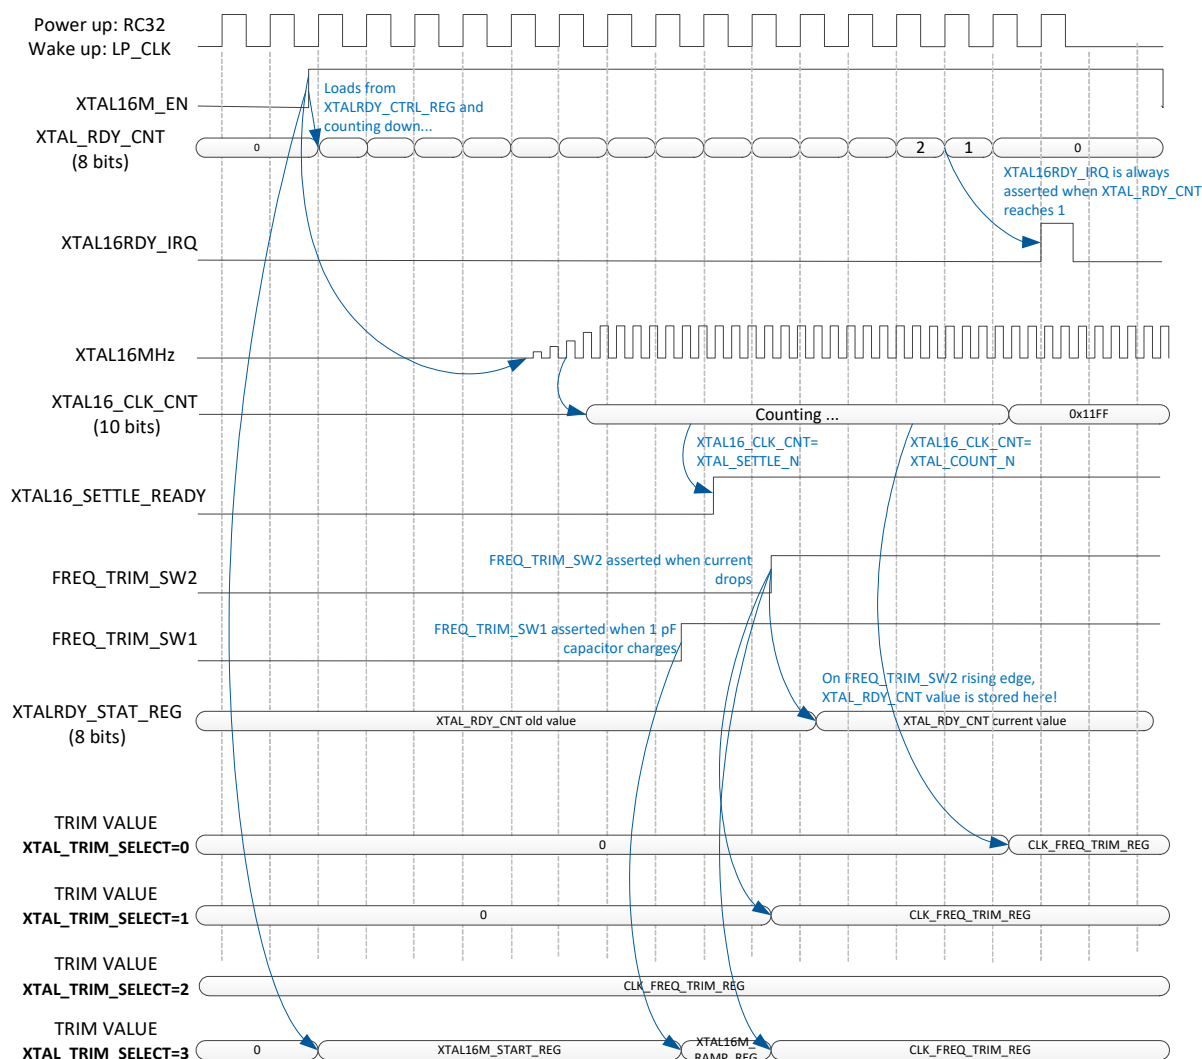

Figure 37: Automated mechanism for XTAL16M trim and settling
and signalling that the oscillator is settled is described in Figure 37:
4. Progressive Mode: respective trim values are applied in stages, namely at the enabling of the XTAL oscillator, next when an internal capacitor is charged and finally when the current drops. The different trim values are stored in different registers as illustrated in Figure 37.